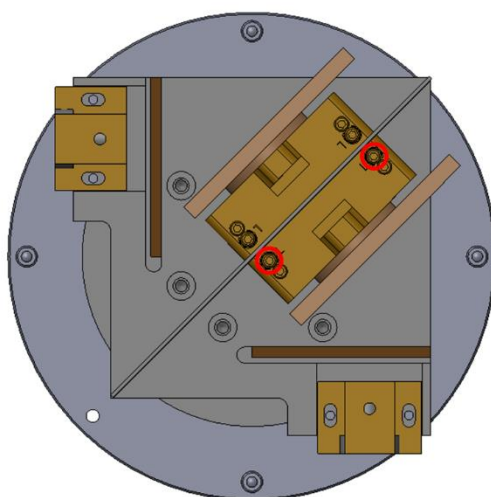

Figure 37: Location of locking setscrews on FLS1000 LLG launcher.
3. Remove the lid and loosen the two set screws circled below in Figure 37 – these are the locking screws for the mirror mount. Note you need only loosen the screws for the emission steering mirror: